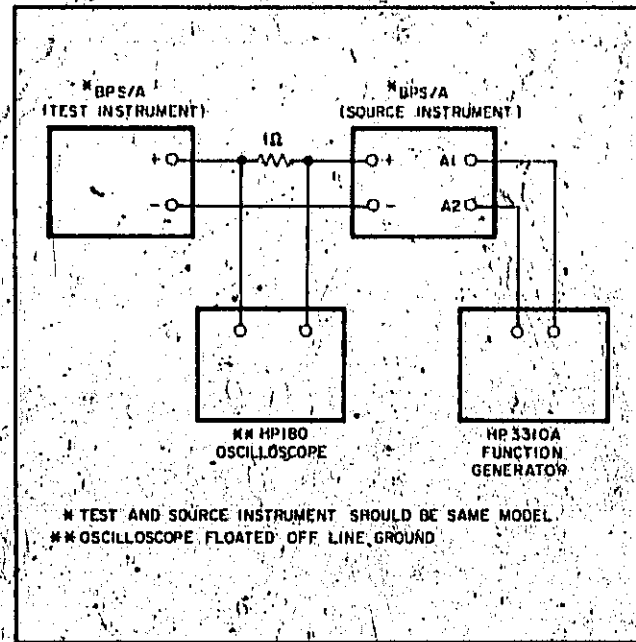

Figure 5-13. Current Sink Test Setup
- e. Turn off test and source instruments and connect test setup of Figure 5-13.